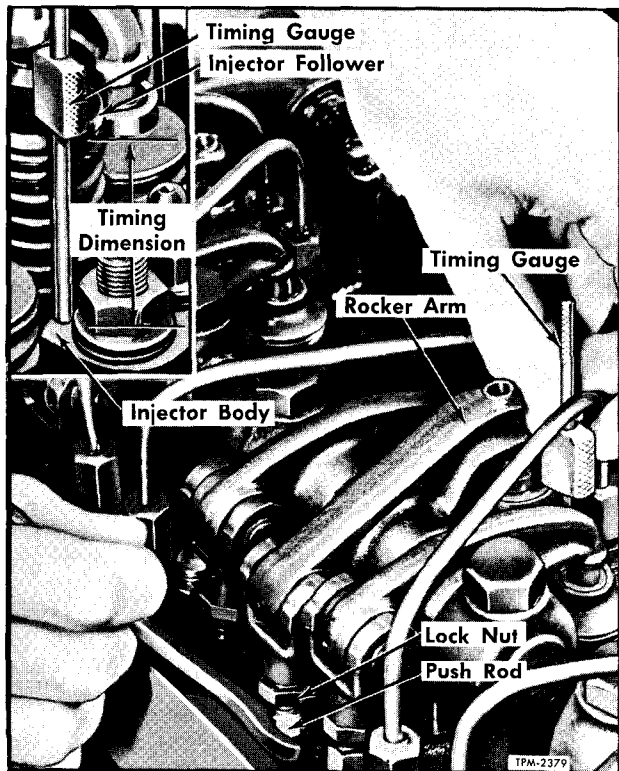

Figure 3—Timing Fuel Injectors (Typical)
3. Place the small end of the injector timing gauge in hole provided in the top of the injector body, with the flat of the gauge toward the injector follower as shown in figure 3. Use the injector timing tool (J-1853) with a timing dimension of 1.460-inch. The gauge should just pass over injector follower.
5. Turn the push rod until the extended part of the gauge will just pass over the top of the injector follower guide (fig. 3).
a. With the rocker arm covers removed, and engine at normal operating temperature and running at normal idle, place the small end of the injector timing gauge in the hole provided in the top of the injector body as shown in figure 3.